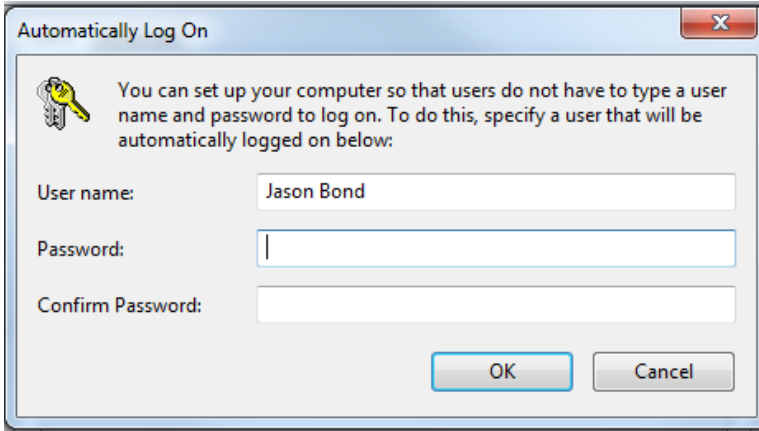

Figure 8: Confirming Automatic Login
- f. Confirm Automatic Login by typing in your Username and Password (Figure 8).